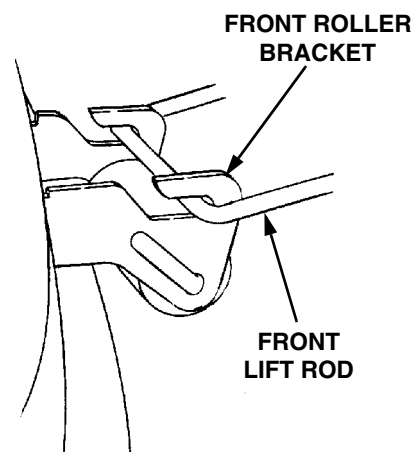

Figure 46
5. While holding the front lift rod up, slide the mower deck forward until the rod aligns with both front roller bracket slots. Lower the lift rod into the front roller bracket slots and slide the deck rearward to engage the lift rod fully forward in the slots of the deck front roller bracket (See Figure 46).